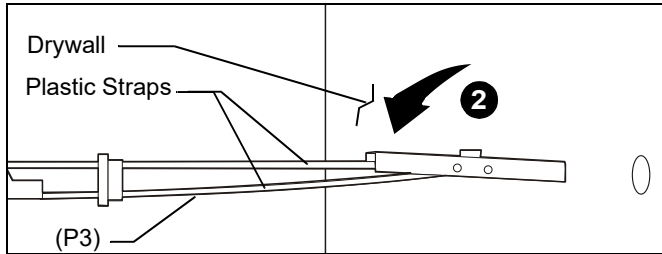

Figure 14
2. Hold metal channel on anchor (P3) flat alongside plastic straps and slide channel through hole. (See Figure 14)